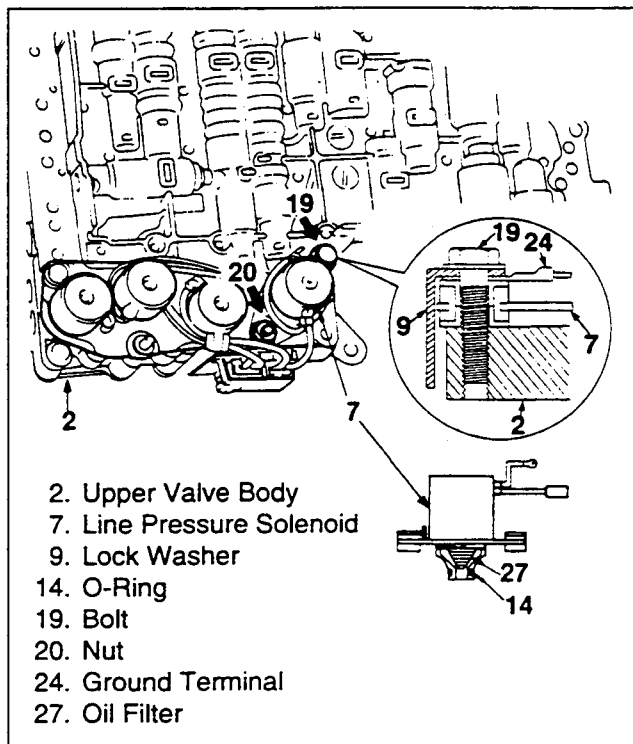

Figure 100. Line Pressure Solenoid Installation
Line Pressure Solenoid (Figure 100)
2. Attach the body grounding terminal and the lock washer at the position shown (figure 100) and tighten the bolt and nut at the specified torque.